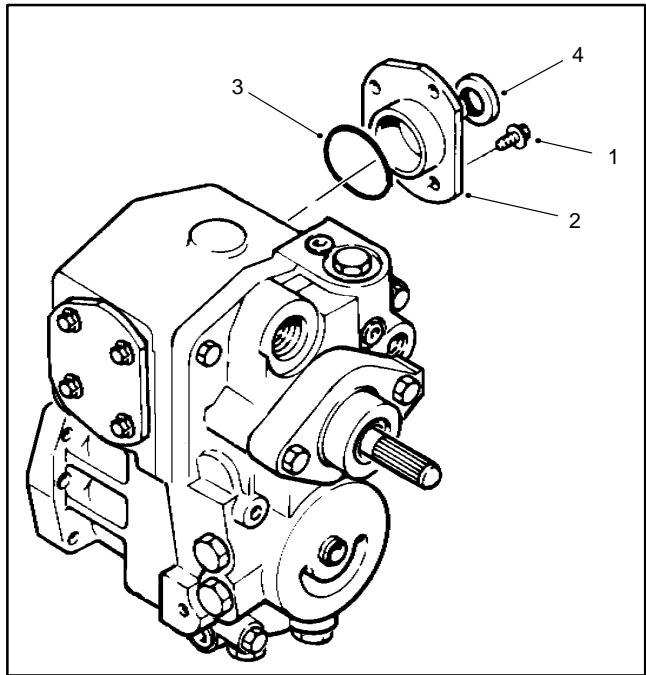

Figure 76
3. Remove hex tapping screws retaining trunnion seal cover to transmission housing (Fig. 76).